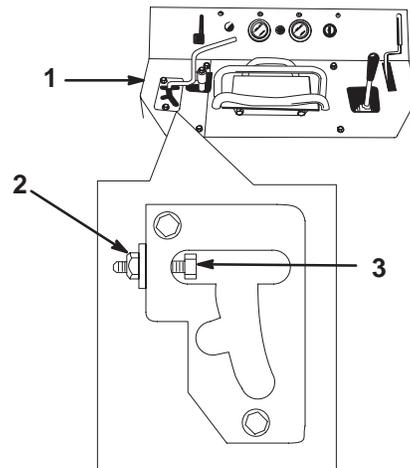

Figure 27
2. Remove the three bolts securing the left control panel cover and remove the cover (Fig. 27).
3. Loosen the jam nut on the adjustment bolt (Fig. 27).